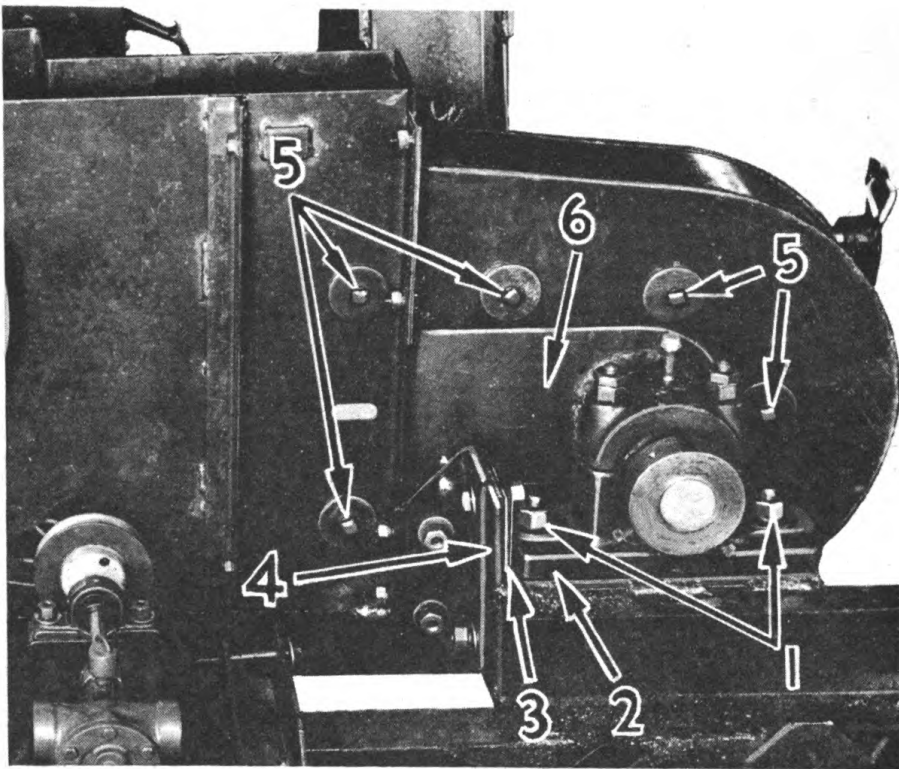

FIG. 28 - ADJUSTMENT OF DRIVE CHAIN BETWEEN
To tighten the cold elevator primary drive chain, loosen bearing hold down bolts (1) Fig. 28, and seal plate bolts (5). Move all three bearing bases (2) in even amounts until the sag on the top run of the chain is not more than 1/4". Be sure that all bearings have been moved the same amount, by inserting an equal amount of shims (3) between the clips (4) and all bearing bases - then tighten bolts. The bolts (5) that secure the sliding seals (6) are then tightened to prevent grease from leaking or dust from entering into the guard.